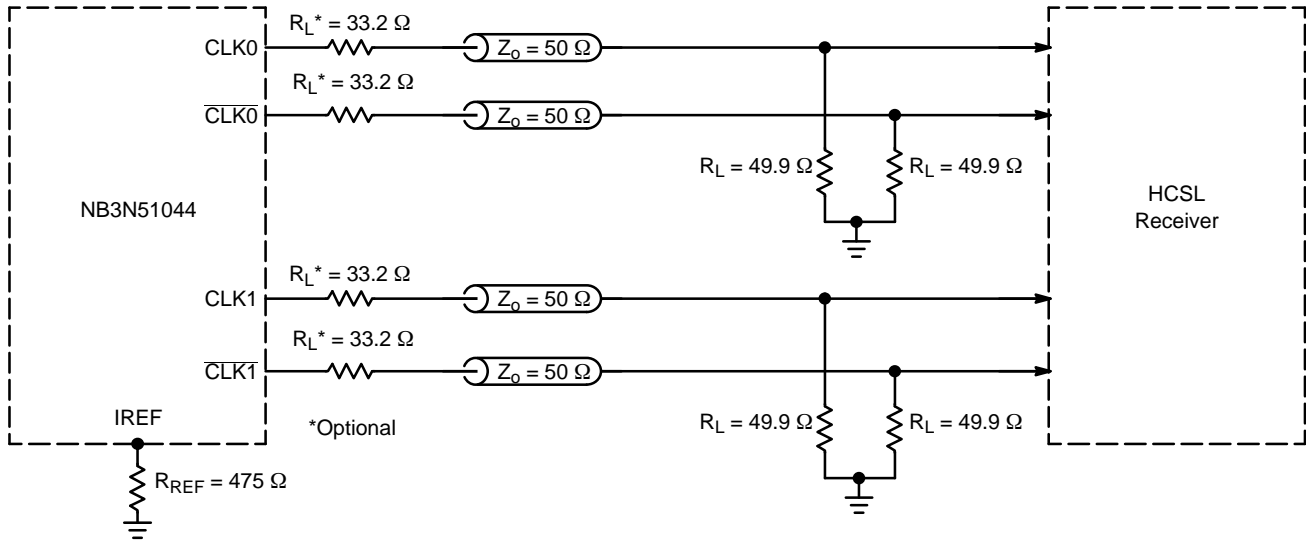
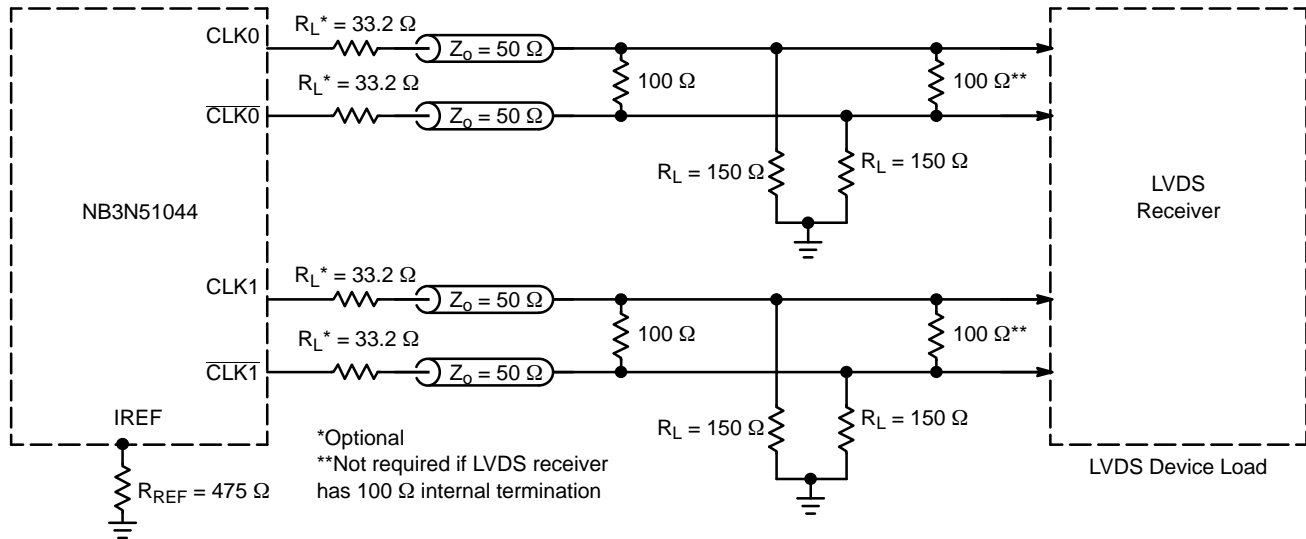

Figure 9. Typical Termination for HCSL Output Driver and Device Evaluation
Figure 10. Typical Termination for LVDS Device Load
4. Measurement taken with outputs terminated with $R_S = 33.2 \Omega$, $R_L = 49.9 \Omega$, with test load capacitance of 2 pF and current biasing resistor set at $R_{REF} = 475 \Omega$. See Figure 9. Guaranteed by characterization.
12. Measurement taken from differential output on single-ended channel terminated with $R_S = 33.2\ \Omega$, $R_L = 49.9\ \Omega$, with test load capacitance of 2 pF and current biasing resistor set at $R_{REF} = 475\ \Omega$. See Figure 9. Guaranteed by characterization.
18. Measurement taken from differential output on single-ended channel terminated with $R_S = 33.2\ \Omega$, $R_L = 49.9\ \Omega$, with test load capacitance of 2 pF and current biasing resistor set at $R_{REF} = 475\ \Omega$. See Figure 9. This parameter is guaranteed by characterization. Not tested in production.
The outputs can be terminated to drive HCSL receiver (see Figure 9) or LVDS receiver (see Figure 10). HCSL output interface requires 49.9 Ω termination resistors to GND for generating the output levels. LVDS output